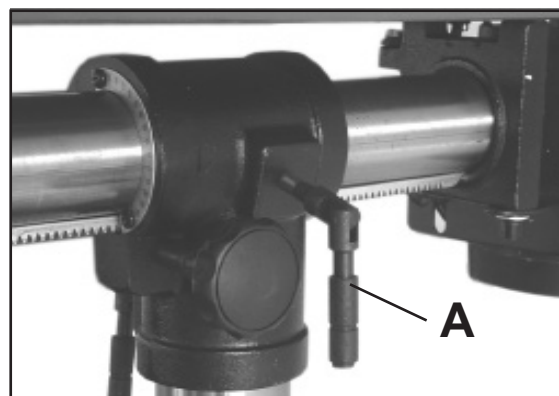

Figure 18
1. Loosen the lock handle (A-Fig.18) on the right side of the drill press head.